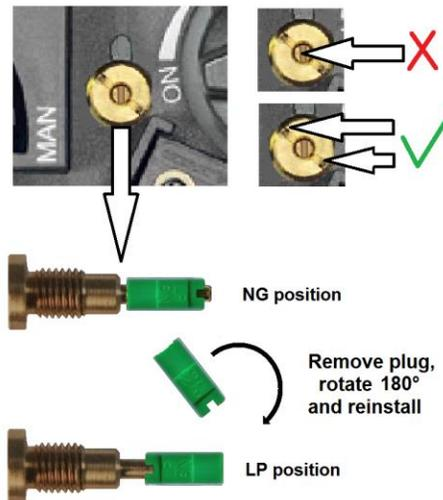

Figure 20 - GV60 LP Conversion Steps
1. The adjustment screw can be reached through a hole in the MANUAL knob (see Figure 20).
Convertible regulators are designed to deliver either of two fixed outlet pressures for Natural Gas (NG) or LP Gas. To change from one gas to the other, turn the outlet pressure screw housing (see Figure 20) counter-clockwise to remove. **Be careful not to engage the small flat slot on the screw itself but use the larger slot of the screw housing to remove the unit.** Unsnap and remove the plastic part, rotate it 180°, and then slide it back on the conversion plug until it snaps. Reinstall the